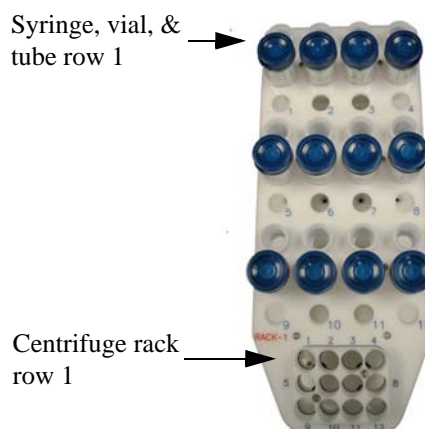

Figure 5 Loading the specimen rack
2. Insert the specimen vials to be processed into the specimen rack starting at vial row 1 (see *Figure 5*). Fill each row of 4 in order until the rack is full (12 vials), or until all of the vials to be processed are loaded. Make sure that the vials are fully seated in their circular wells. If processing fewer than three rows of vials, start loading vials at vial row 1.
6. After the specimen rack has been processed (see **BD PrepMate operating instructions** below) carefully unload the rack. Place the tubes containing the cell suspension and density reagent into the centrifuge racks in the same order as they were in the BD PrepMate Automated Accessory. *Figures 5 and 7* illustrate the proper correspondence between the centrifuge racks and the BD PrepMate specimen rack.